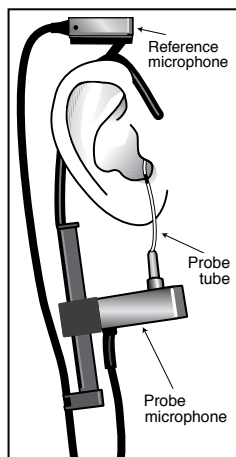
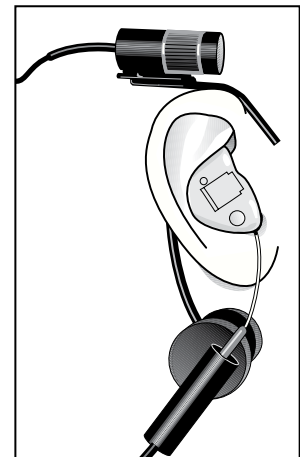

Figure 5.2.4B
Figure 5.2.4D
4. Insert the probe tube into the client's ear so that the mark is at the location where the bottom of the outer surface of the earmold would be. See Figure 5.2.4B.
Hints: To help keep the probe tube in place, position the tube so that it runs through the tragal notch, resting against the lower edge of the tragus (Figure 5.2.4B) If necessary, adjust the integrated microphone for better positioning. If desired, use surgical tape to hold the tube in position.
NOTE: Figures 5.2.4B and 5.2.4C contain pictures of the integrated probe microphone. The probe microphone setup with the older style M300 separate probe microphone set is shown in Figure 5.2.4D.
1. Place the integrated probe microphone on the client's ear. See Figure 5.2.4B.